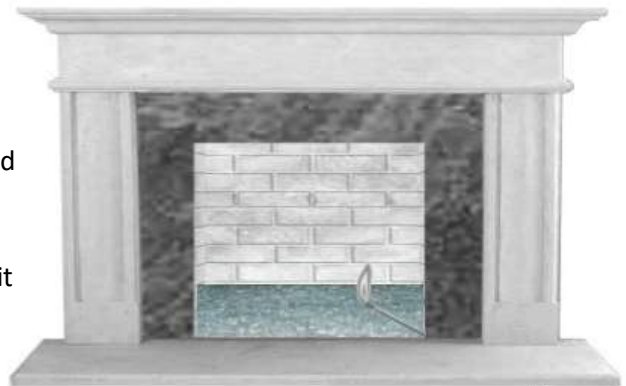

Figure 4
1. **Place lighted** match (Figure 4) on glass near inlet end of burner. **DO NOT HOLD MATCH IN HAND!** Move away from fireplace.